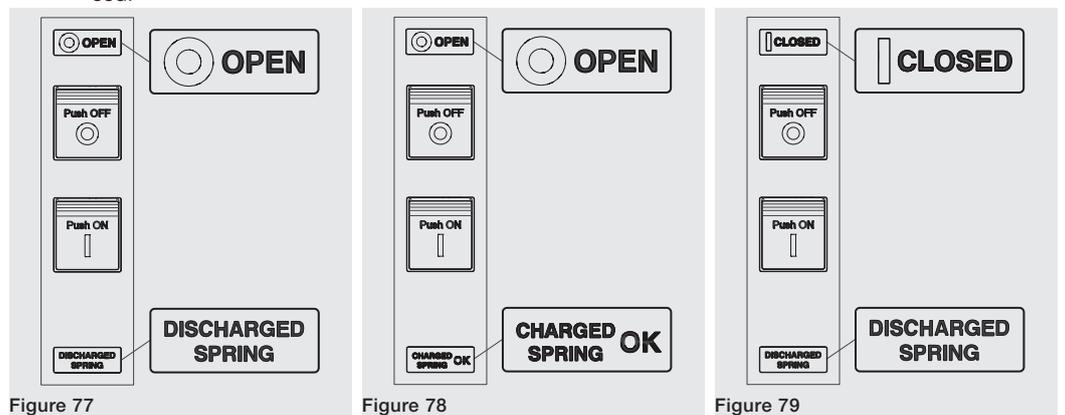

Figure 77
1. Circuit-breaker open with springs discharged (see Figure 77).